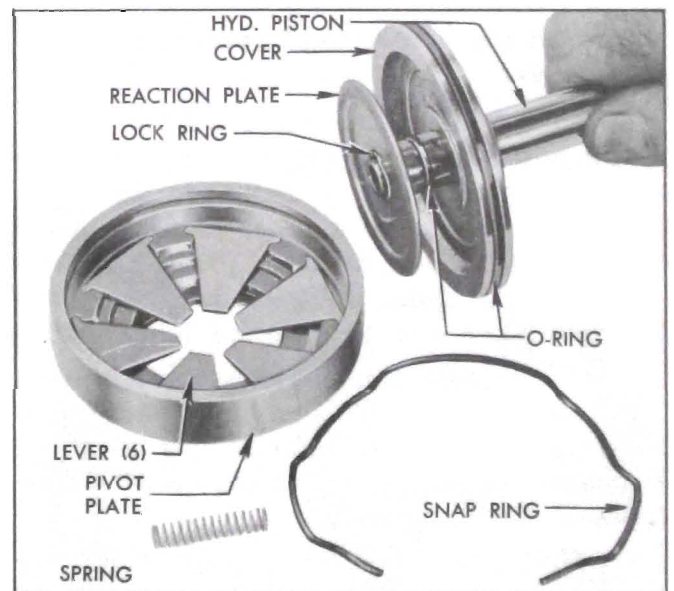

Figure 9-22—Hydraulic Piston and Attached Parts
10. Remove air valve return spring from bore of hydraulic piston. Remove snap ring, lift piston with cover out of pivot plate, and remove reaction levers. Remove snap ring, reaction plate, and cover from piston. See figure 9-22.